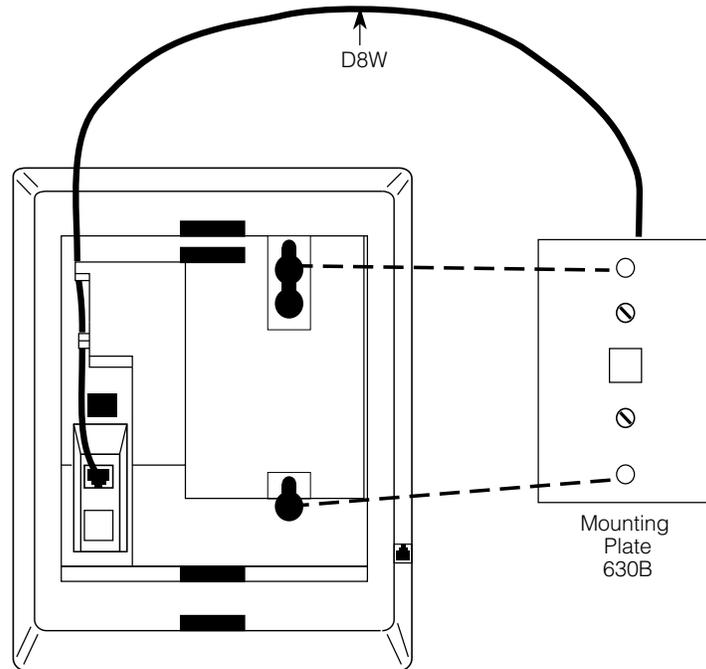

Figure 3–38. Routing the Cord Through the Backplate
- f Plug the free end of the cord into the LINE jack on the back of the telephone. Route the cord through the cord channel above the jack. See Figure 3–38.